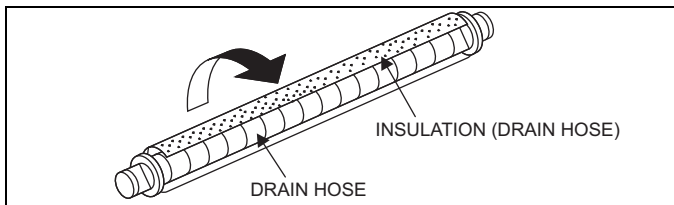

FIGURE 19: Drain Hose Insulation
- Attach the Insulation (Drain hose) to the drain hose. See Figure 19.